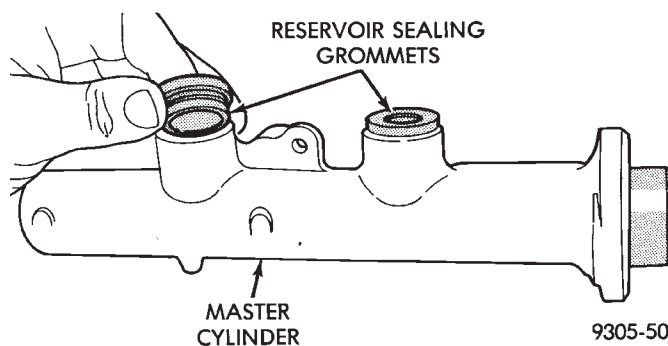

Fig. 6 Removing Reservoir Sealing Grommets
(6) Remove housing-to-reservoir grommets (Fig. 6).
(7) Install new housing-to-reservoir grommets in master cylinder housing (Fig. 6).